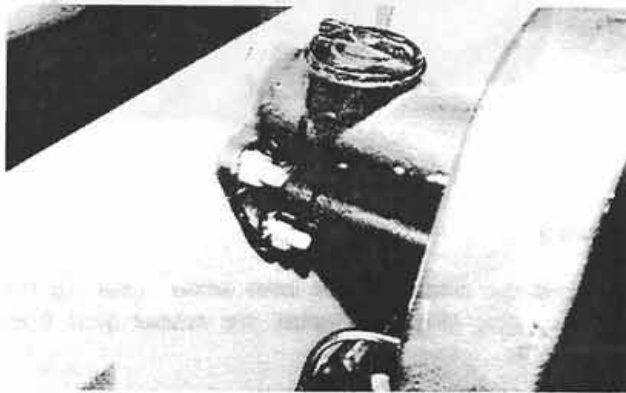

Figure 2:
2. Remove the three (3) self-locking hexagon nuts from the cylinder mount flange (Fig. 2), and pull the unit forward.